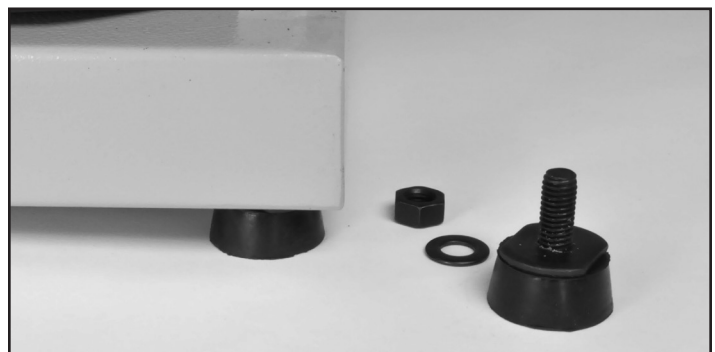

FIG. 1
2. Insert the treaded portion of the rubber foot through the machine's base, and put on a washer, followed by a nut to secure the foot in place. (Parts #A52 - 49). Figure 1.